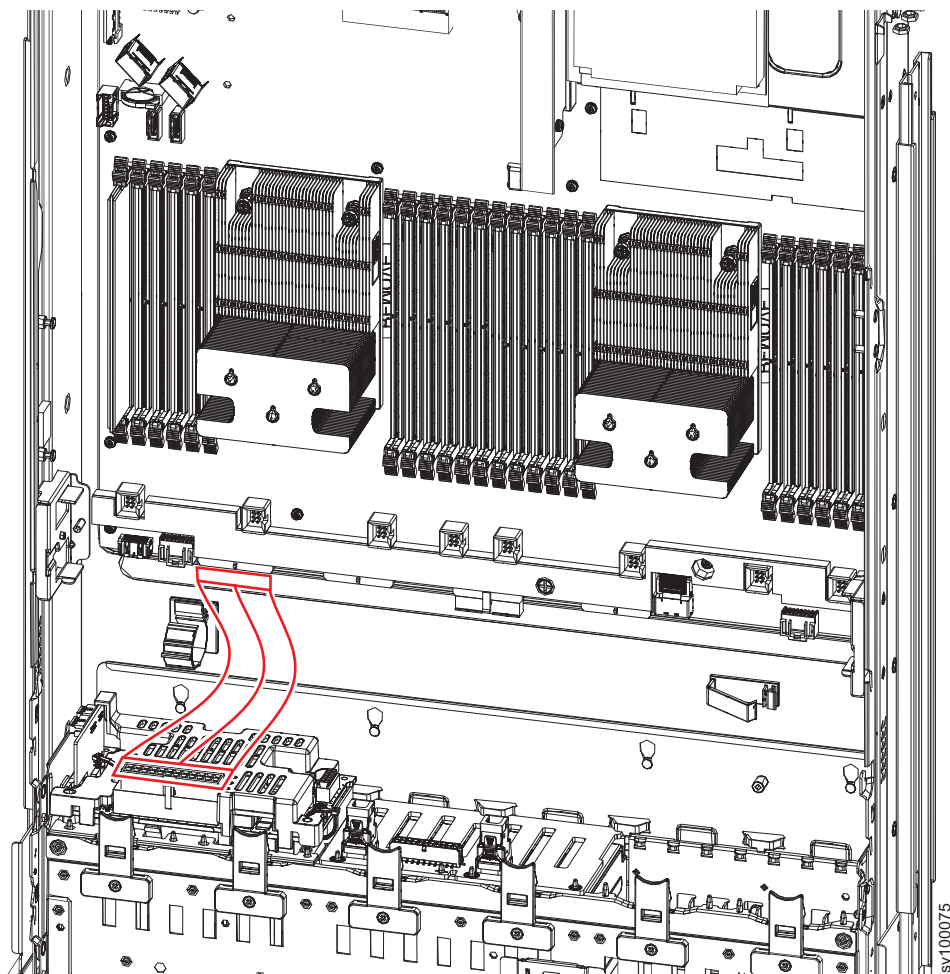

Figure 111. 2145-SV1 battery backplane power cable
5. Attach the battery backplane power cable to the main board, if needed, as shown in Figure 111 on page 133.